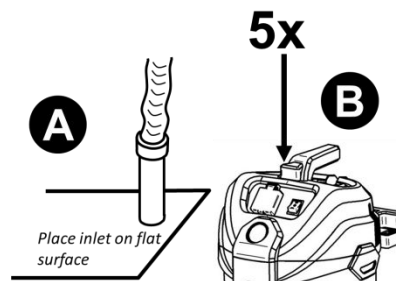

Figure 6
- a. Turn the switch on (I).
- c. See Figure 6. Place the end of the hose in on a flat, solid surface (A). This will close the air flow and build up pressure in the tank to clean the filter.
- e. Push the filter cleaning button (B) quickly 5 times.